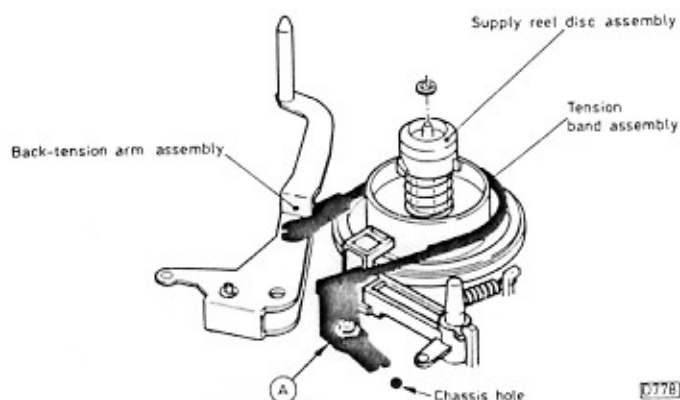

Fig. 4: The back-tension assembly.
The back-tension band is not a source of trouble with these machines. If it appears to be well worn however it should be replaced. According to the service manual the torque should be set at between 30-40g-cm, using a back-tension cassette. The only correct way to set back tension is to use some form of tension gauge. If you are working on only the occasional machine however, out of interest rather than as a repair service, the 3V29 is, unlike many other models, very tolerant and will often allow you to set the tension using the method outlined below (see Fig. 4) – but I must emphasise that you do so at your own risk. Tension is adjusted by moving the foot (A) from left to right. Without a tension gauge, fitting a new band in the same mechanical position as the old one will usually give you approximately the correct tension. Where the original band has been moved (you can tell if the locking glue has been broken), approximately correct tension should be obtained by aligning the slot in the foot with the adjacent hole in the chassis. This forms a good starting point when you do use a tension gauge.